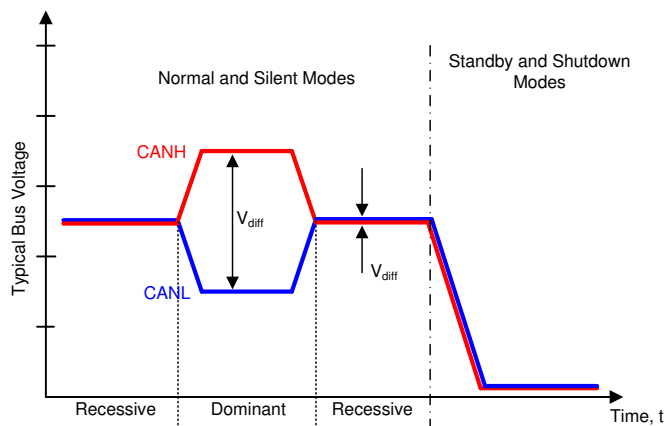
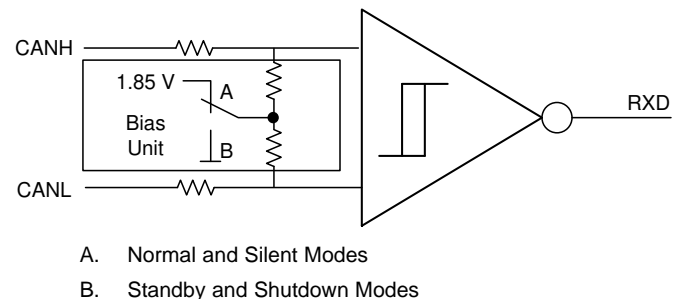
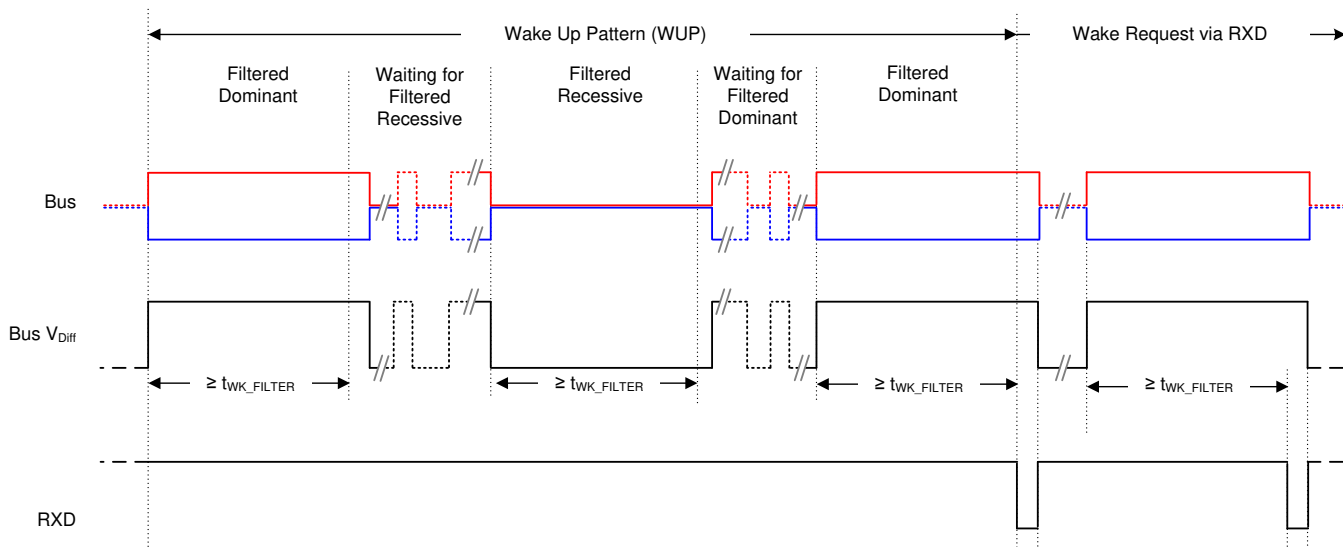

Figure 31. Bus States (Physical Bit Representation)
Figure 32. Simplified Recessive Common Mode Bias Unit and Receiver
Figure 33. Wake Up Pattern (WUP) and Bus Wake via RXD Request (BWRR)
The CAN bus has two logical states during operation: recessive and dominant. See Figure 31 and Figure 32.
Transceivers with low power Standby Mode have a third bus state where the bus terminals are weakly biased to ground via the high resistance internal resistors of the receiver. See Figure 31 and Figure 32.
(1) See Figure 31 for bus state.
(2) Mirrors bus state: low if CAN bus is dominant, high if CAN bus is recessive.
(2) Standby Mode RXD behavior: See Figure 33.
(3) Mirrors bus state: low if CAN bus is dominant, high if CAN bus is recessive.
This is the low power mode of the device. The CAN driver and main receiver are turned off and bi-directional CAN communication is not possible. The low power receiver and bus monitor are enabled to allow for RXD Wake Requests via the CAN bus. A wake up request will be output to RXD (driven low) as shown in Figure 33. The local CAN protocol microprocessor should monitor RXD for transitions (high to low) and reactivate the device to normal mode based on the RXD Wake Request. The CAN bus pins are weakly pulled to GND during this mode, see Figure 32.
See Figure 33 for the timing diagram of the WUP. The pattern, t_{WK_FILTER} time used for the WUP and BWRR prevent noise and bus stuck dominant faults from causing false wake requests. If the device is switched to normal mode, or an under voltage event occurs on V_{CC} the BWRR will be lost.
This is the lowest power mode of all of the devices. The CAN driver and receiver are turned off and bi-directional CAN communication is not possible. It is not possible to receive a remote wake request via the CAN bus in this mode. The CAN bus pins are pulled to GND during this mode as shown in Figure 31.
(1) H = high level, L = low level, X = irrelevant.
(2) H = high level, L = low level, Z = high Z receiver bias.
(3) For Bus state and bias see Figure 31 and Figure 32.